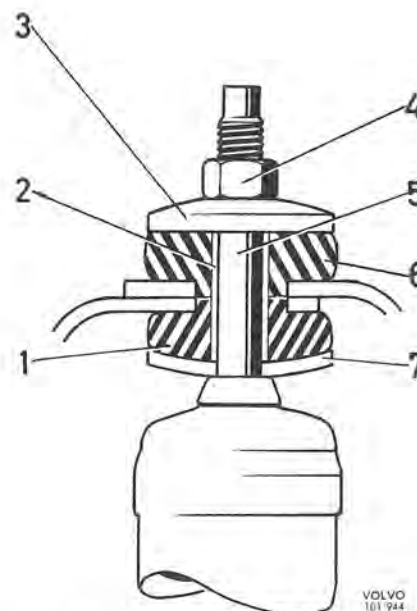

Fig. 7-7. Upper attachment, front shock absorber
3. Check the rubber bush and lower washer (1, and 7, Fig. 7-7) of the upper shock absorber attachment. Place the shock absorber in position and tighten its attachment.
The front shock absorber upper attachment (Fig. 7-7) consists of a spindle (5), which with upper bushes (1 and 6), washers (3 and 7) and a spacing sleeve, are fixed into a housing in the front axle member.
1. Remove the upper nut (4, Fig. 7-7), the washer (3) and the rubber bush (6).